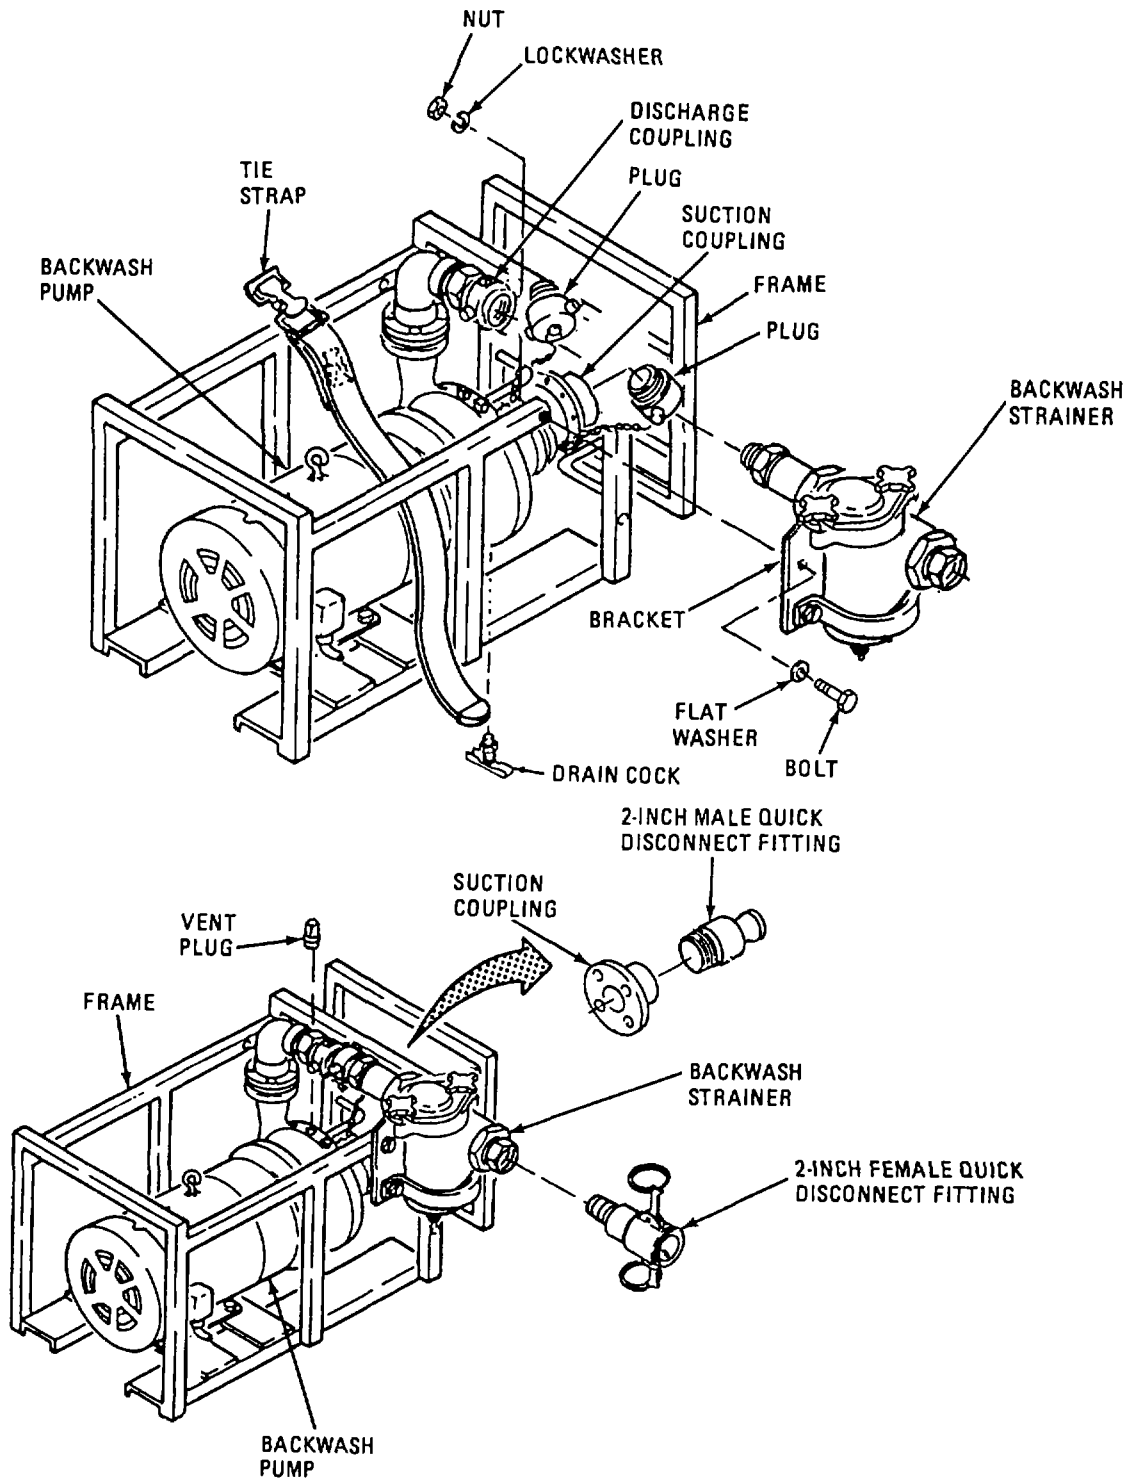

Figure 2-28. Backwash Pump Quick Disconnect Fittings.
- g. Install Backwash Pump Quick Disconnect Fittings. Refer to figure 2-28.
- (1) Remove tie straps securing strainer to backwash pump.
- (2) Unscrew plug from suction coupling.
- (3) Unscrew plug from discharge coupling.
- (4) Remove the two mounting bolts, nuts and flat washers from the backwash strainer bracket.
- (5) Connect strainer to discharge coupling on backwash pump.
- (6) Place backwash strainer bracket against frame and line up the holes.
- (7) Mount strainer to frame with two flat washers, bolts, lockwashers and nuts .